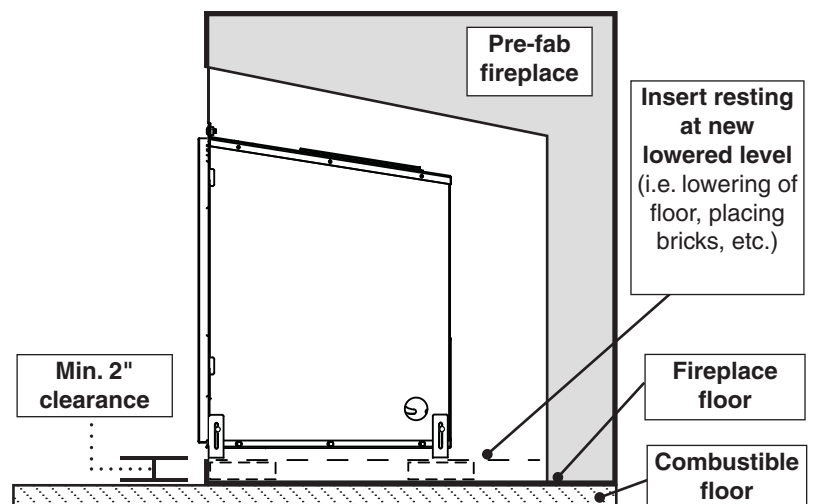

Fig. 20-2 Pre-fab fireplace floor height adjustment
- B. Cutting any sheet metal parts of the fireplace in which the gas fireplace insert is to be installed is prohibited, with the exception of the firebox floor. The metal firebox floor may be removed/altered to allow additional room for installation of the insert. Note: a minimum 2" clearance is required between the fireplace floor and the insert. The clearance may be provided by lowering the firebox floor, placing bricks, etc. See Fig. 20-2.